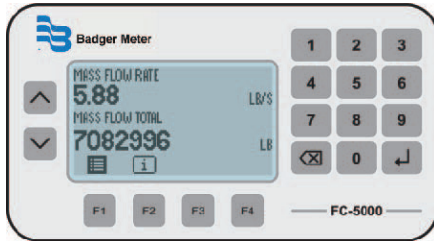

Figure 2: Dual display
- FLOW RATE AND FLOW TOTAL (Dual Display) (Figure 2)